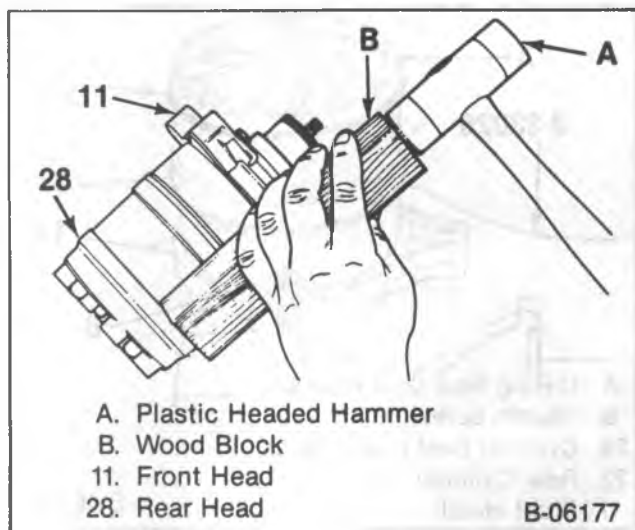
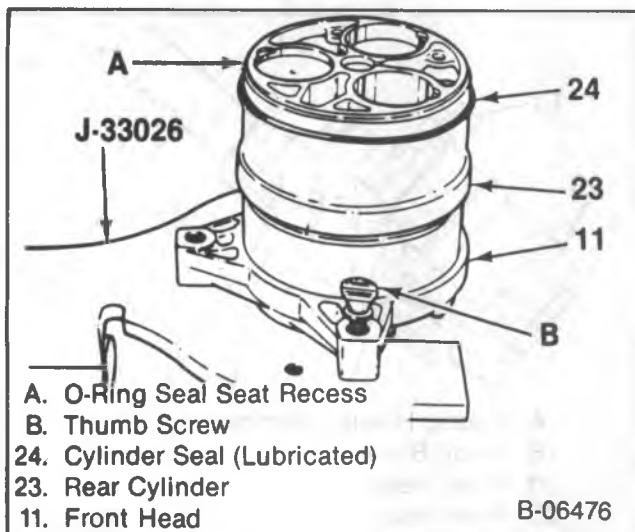
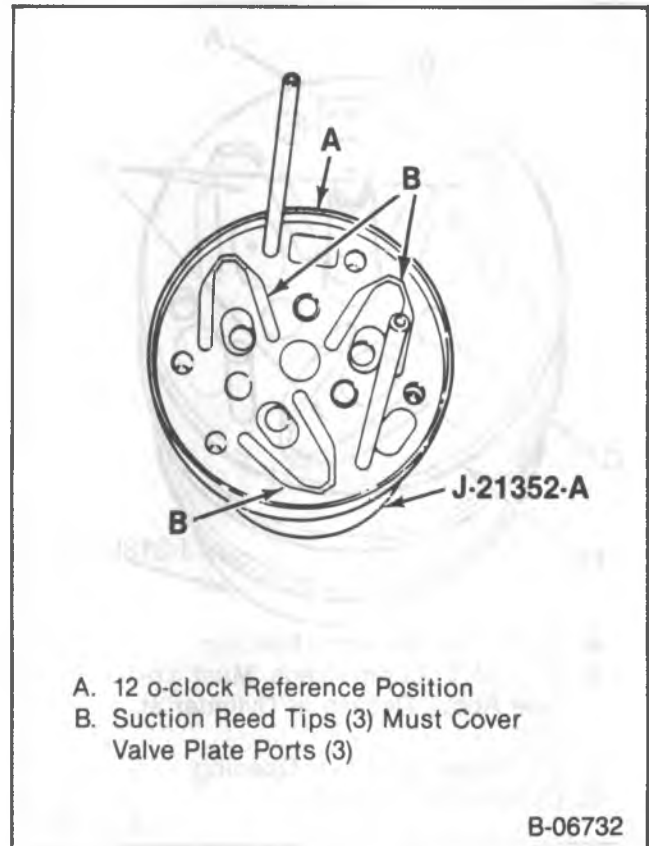

Figure 29 — Tapping the Rear Head or Front Head Free of the Cylinder
Figure 30 — Installing the O-Ring Seals on the Cylinder Seal Races
Figure 34 — Installing the Reed Plate
- 6. Rear head (28) (figure 29).
- Using a wood block, tap around the edge of the rear head (28) to ease removal.
- Mount the compressor on J 33026 front head (11) down (figure 30).
- 7. Head gasket (27).
- 8. Valve plate (26).
- 9. Suction reed plate (25).
- 10. Cylinder seal (24).
- 11. Cylinder (23).
4. Suction reed plate (25).
- Over the guide pins into proper position (figure 34).
- Be sure all three suction reed tips cover the suction ports in the rear valve plate (26).
5. Cylinder seal (24).
- Lubricate a new cylinder seal (24) with clean 525 viscosity refrigerant oil and position the seal on the rear cylinder (23) (figure 30). Roll the cylinder seal into the groove. Cylinder (23) surface must be clean at the rear.